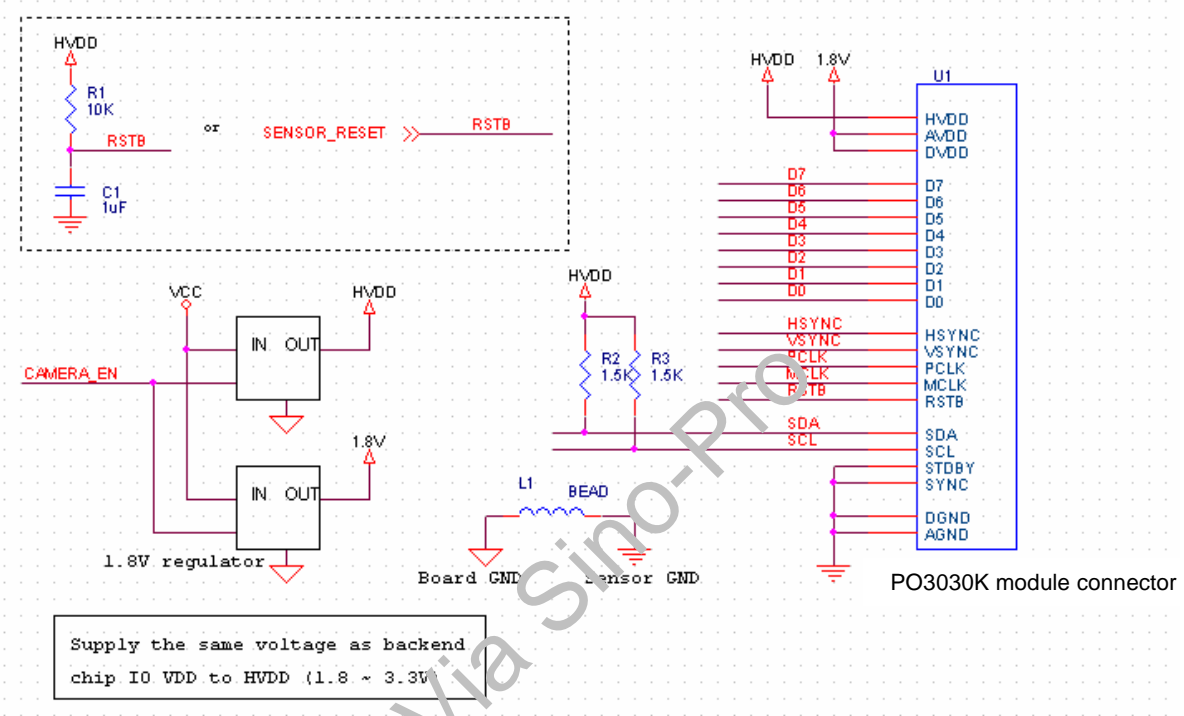

Figure 1. PO3030xC module typical connection diagram
It is important that care be given to the PC board layout to reduce power noise. Figure 1 shows a recommended connection diagram for the PO3030K.
- ⇒ *Sensor reset can be controlled by power cut-off by connecting RSTB pin to HVDD not other VDD using 10K resistor and 1uF capacitor as shown in above Figure 1.*